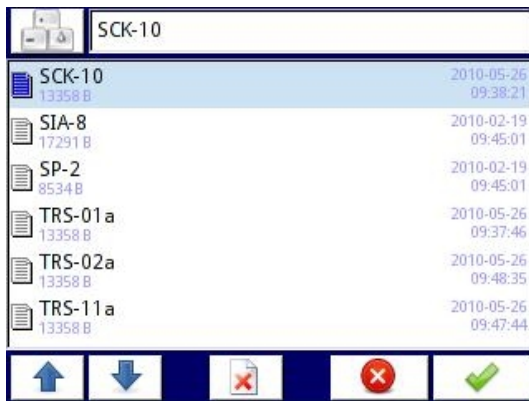

Fig. 7.104. Template selection window
- **Load device template**, this button allows the loading a template with predefined blocks of input and / or output registers. Pressing this button invokes a file selection window (Fig 7.104). After successful loading of the template an extended list of SLAVE device parameters will appear, see below for details. Templates can be imported into the MultiCon using a **File Management** menu and also created by the user using **Save device template** button after fully configuration of a slave device.
An example of Modbus template selection window is shown in Fig. 7.104. Below this figure additional icons are described.